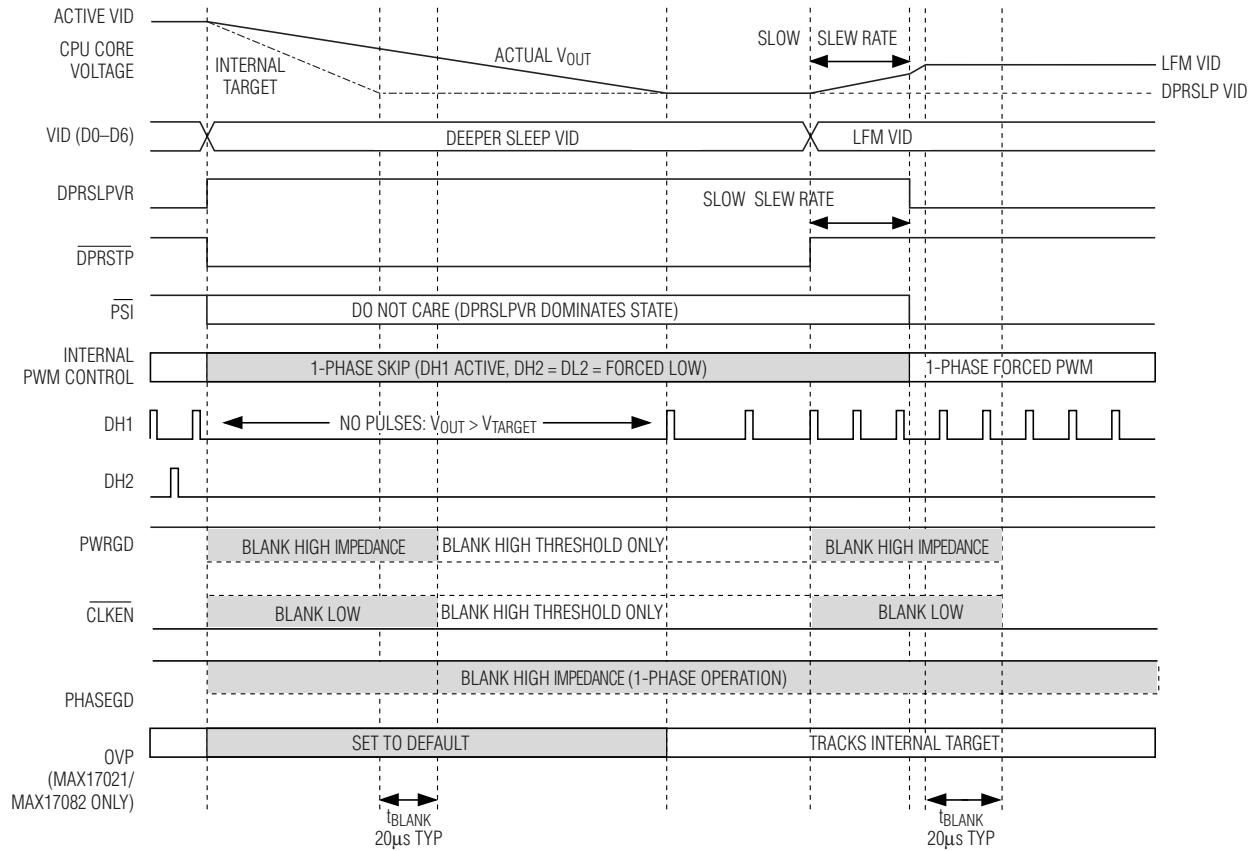

Figure 7. Slow C4 Transition
- IMVP-6+ Slow C4 Deeper Sleep Exit:** When exiting deeper sleep (DPRSLPVR high, \overline{DPRSTP} pulled high) while the output voltage is regulating to the deeper sleep voltage, the MAX17021 remains in 1-phase skip mode and ramps the output voltage to the LFM DAC code provided by the processor at 1/4 the slew rate set by R_{TIME} . The controller blanks PWRGD, PHASEGD, and CLKEN until 20 μ s after the transition is completed. See Figure 7.